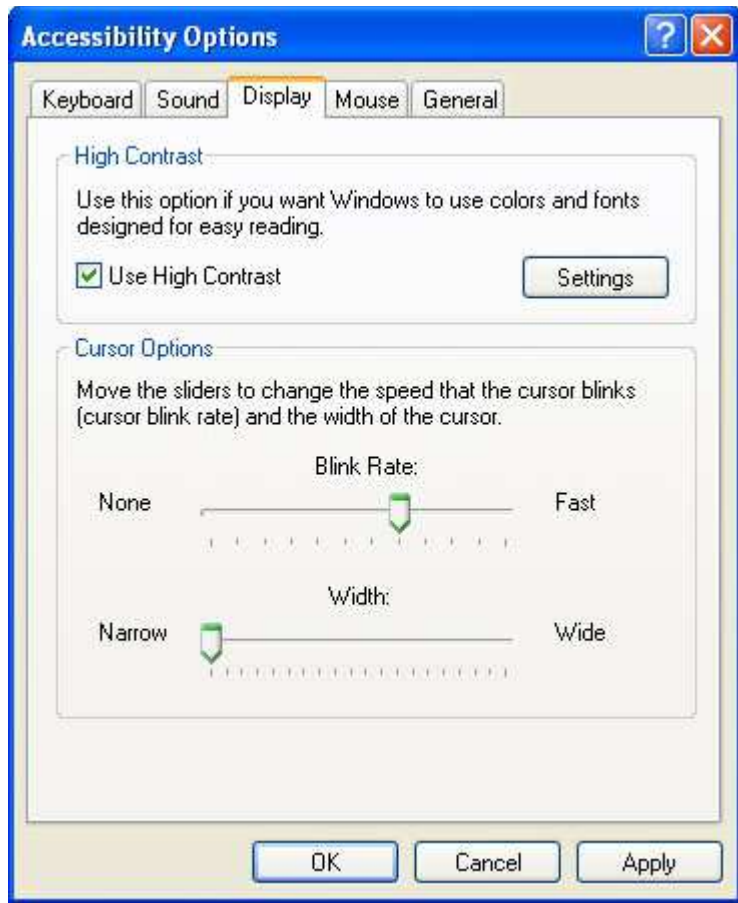

Figure 17. Display tab
3. In the **High Contrast** area of the **Display** tab, select the **Use High Contrast** check box, as shown in Figure 17 on page 94: